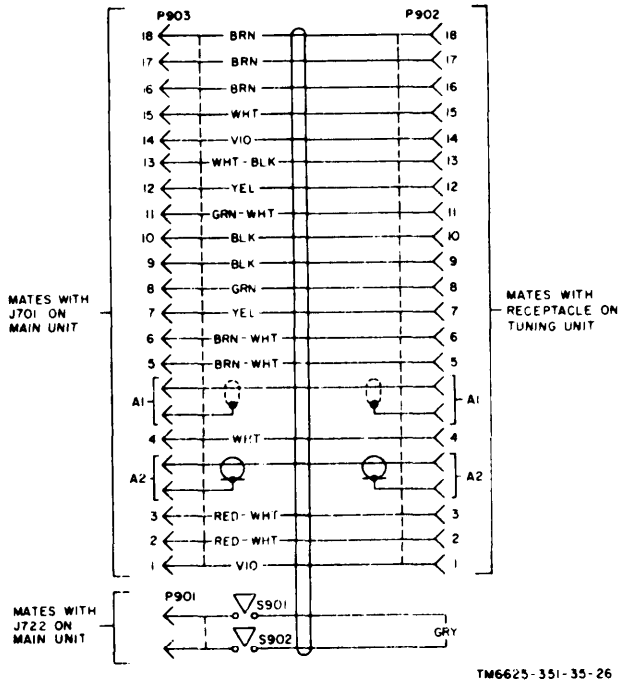

Figure 39. Cable Assembly, Special Purpose, Electrical Brunched CX-6681/URM-85, schematic diagram.
e. Cable Assembly, Special Purpose, Electrical Branches CX-6681/URM-85 (fig. 39). This cable assembly is used to apply operating voltages and to couple signals to and from the main unit when a tuning unit is being aligned or repaired. The main branch of the cable is 30-inches long and serves the following functions: